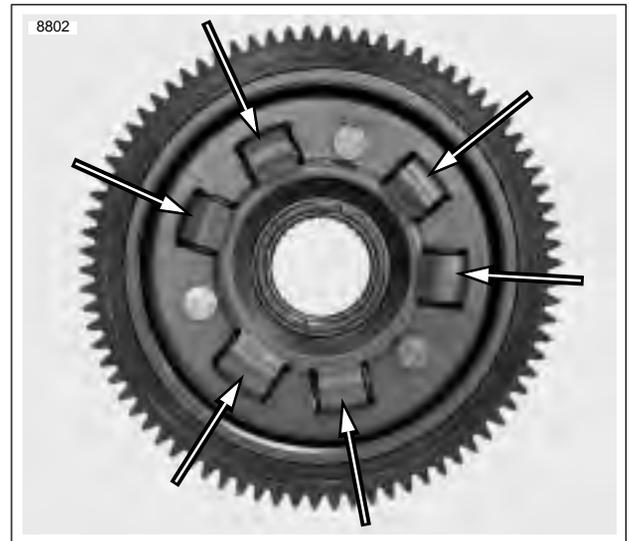

Figure 6-25. Compensating Spring Set
8. See Figure 6-25. Inspect the clutch shell compensating spring set.